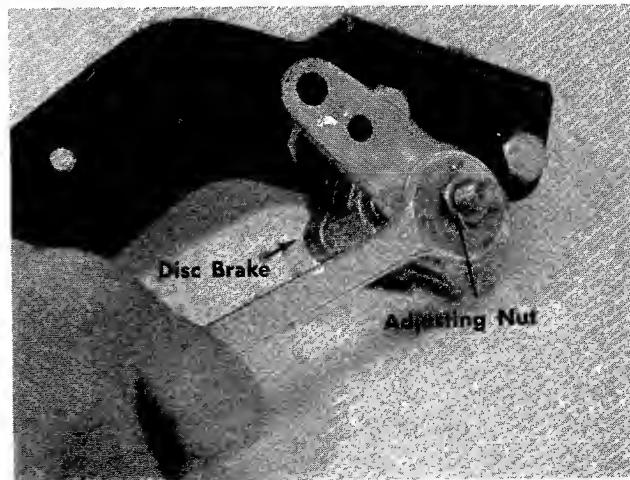

**FIGURE 43.**
2. Tighten the adjusting nuts as shown in figure 43 until you have the proper tension.